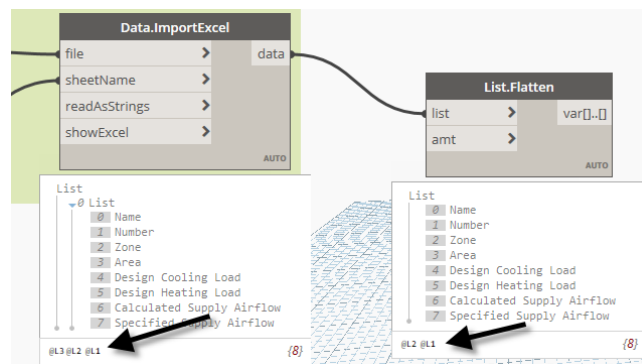

FIGURE 64
17. Run the graph and expand the Preview Bubble on the **Flatten** node (see Figure 64).